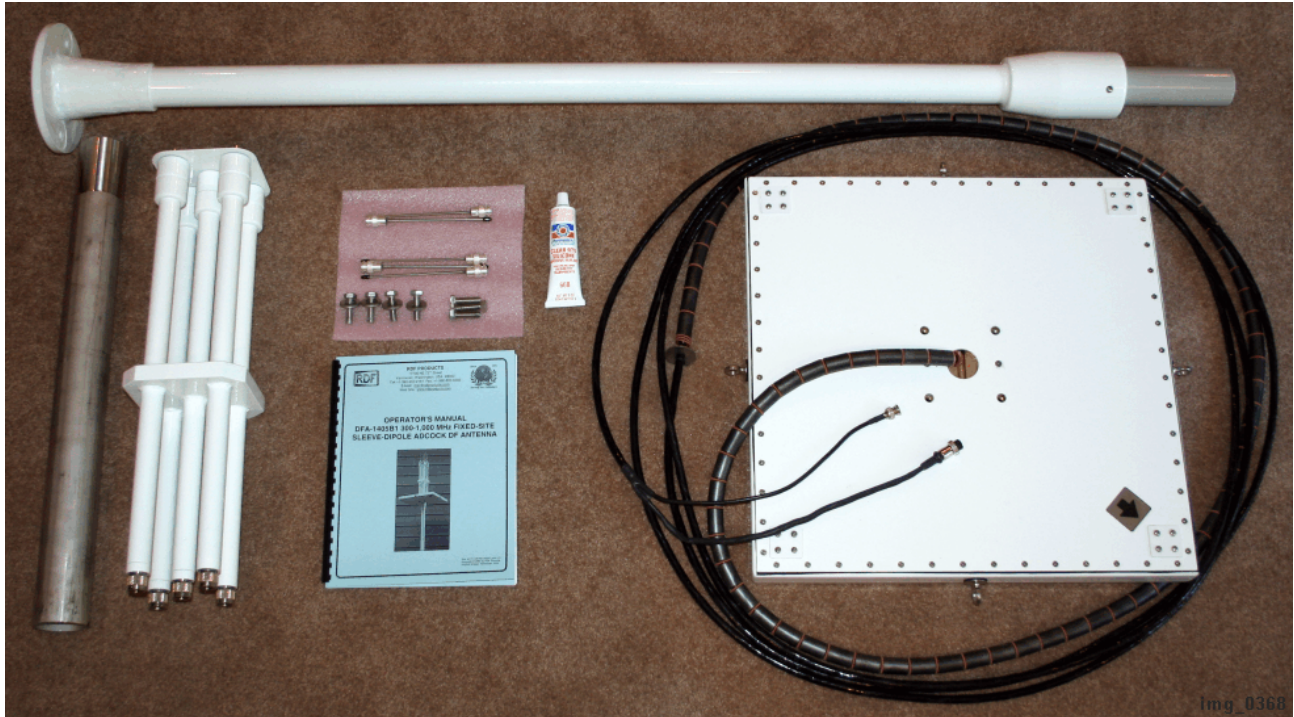

Figure 2 - DFA-1405B1 Components
All of the above components are illustrated in Figure 2 below (with the exception of the DFA-1405B1 spare hardware kit). Refer to this photo as required to identify these components during the assembly procedure presented in Section IV.
3. Ferrite-Loaded Cable Set - The cable attached to the main housing (see Figure 2) is loaded with large ferrite cylinders. Since these ferrites are somewhat brittle, exercise caution when handling this cable set so as to prevent impact against hard surfaces or objects. Also, do not attempt to bend this cable set too tightly.
3. Locate the sleeve-dipole main assembly (see Figure 2) and *gently* set it atop the type-N connectors as illustrated in Figure 3. **Note:** The rotational alignment of the sleeve-dipole assembly with respect to the chassis connectors is unimportant so long as all the connectors match up.